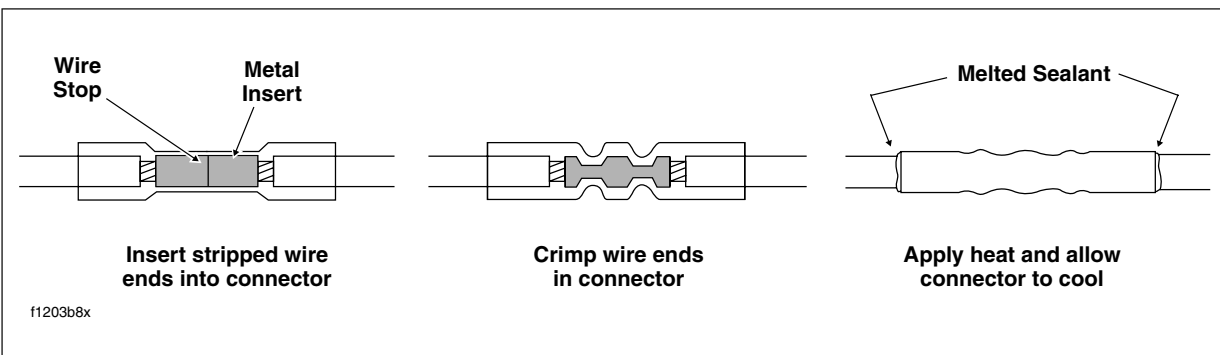

Figure B-40. Installing Sealed Butt Splice Connectors
- See Figure B-40. Feed the wire into the butt splice connector until the stripped end contacts the wire stop inside the metal insert.
- Using the UltraTorch UT-100 (HD-39969), Robinair Heat Gun (HD-2507 41183) or other suitable radiant heating device, heat the crimped splice to encapsulate the butt splice connection. Apply heat from the center of the crimp out to each end until the meltable sealant exudes out both ends of the connector. See Figure B-40.